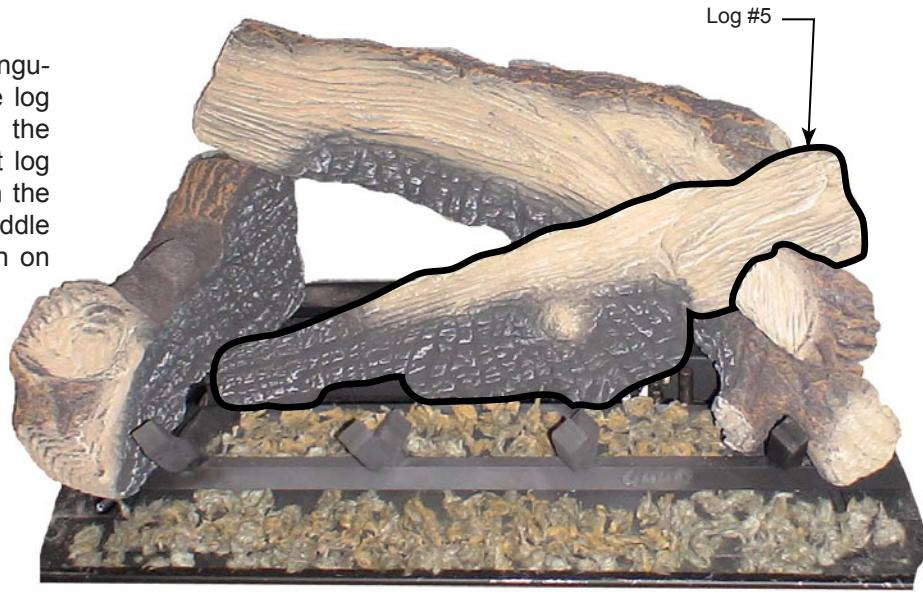

Figure 36
7. Install log #5 by placing the rectangular protrusion on the bottom of the log between the burners and pushing the log to the left until it stops against log #1. Place the rectangular notch on the bottom of the right side onto the middle or remaining rectangular protrusion on log #2. *Figure 36*